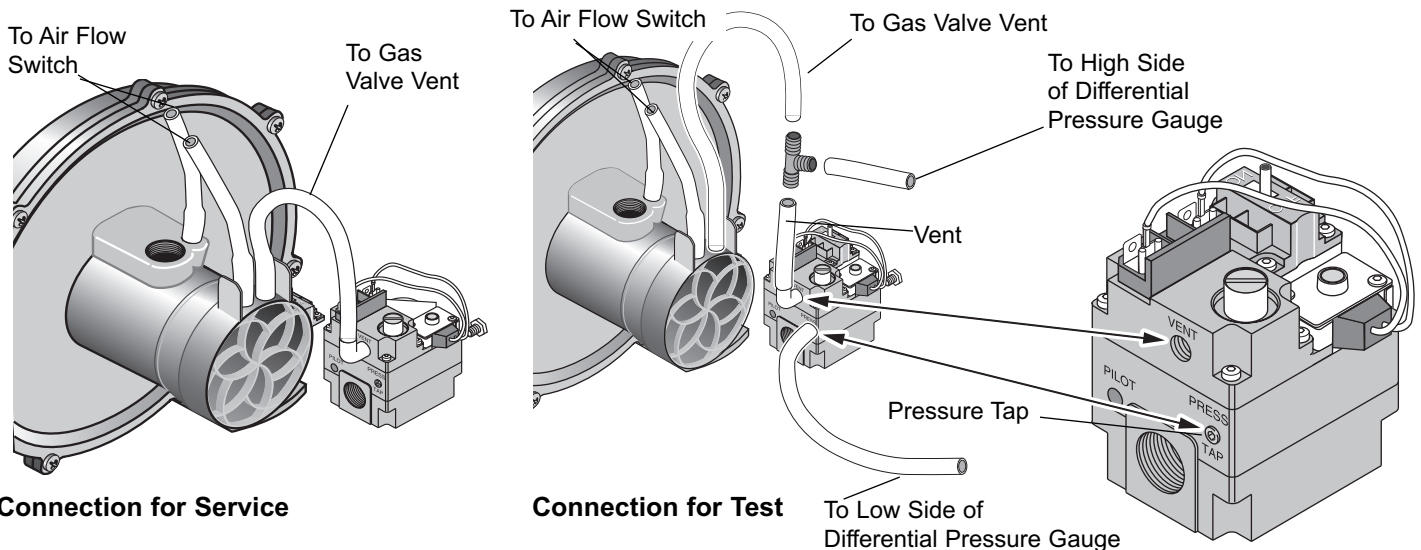

FIGURE 20: Connect Gas Valve to End Cap Air Orifice
The combination gas valve incorporates dual shut-off valves and a negative-pressure regulator. For proper operation, the regulated pressure at the outlet manifold of the valve must be 0.2 " (0.5 cm) wc below the reference pressure at the blower mixer inlet, and the gas valve 'VENT' tap must be connected to the endcap air orifice as shown in Figure 20.
4. Disconnect the tube from the Gas Valve 'VENT' port. Connect it to a tube with a tee running to the high side of a differential pressure gauge and to the blower's air orifice grille (See Figure 20).